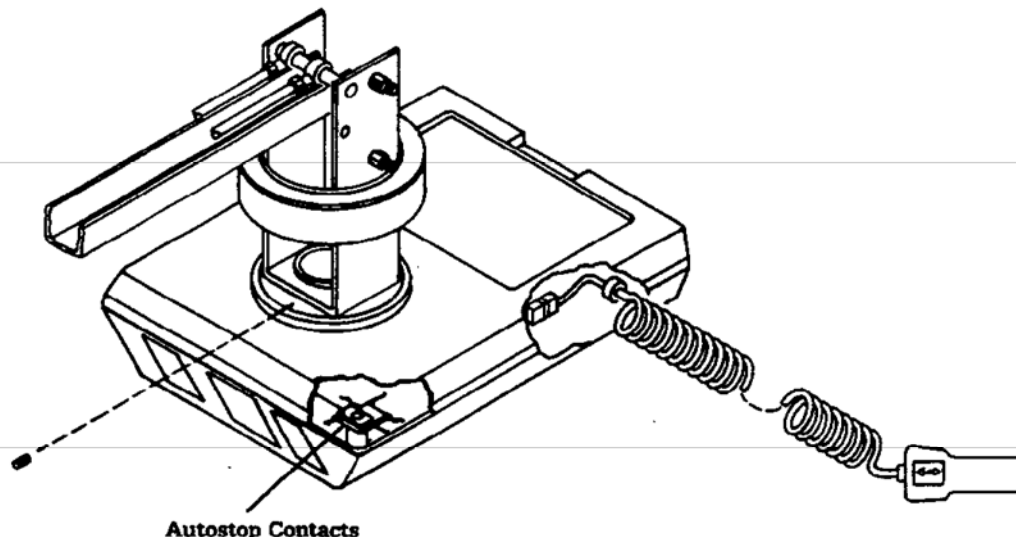

Figure 2
4. Remove (4) Avsafe tamperproof screws from Pendant head top cover.
6. Inspect Autostop contacts at each corner. (See Figure 2.) Tighten all contacts with a 5/32 Allen wrench until the red LED on the front of the Pendant head is illuminated. Then back off each contact one-half (1/2) a turn. This should cause the red Autostop indicator to turn off.